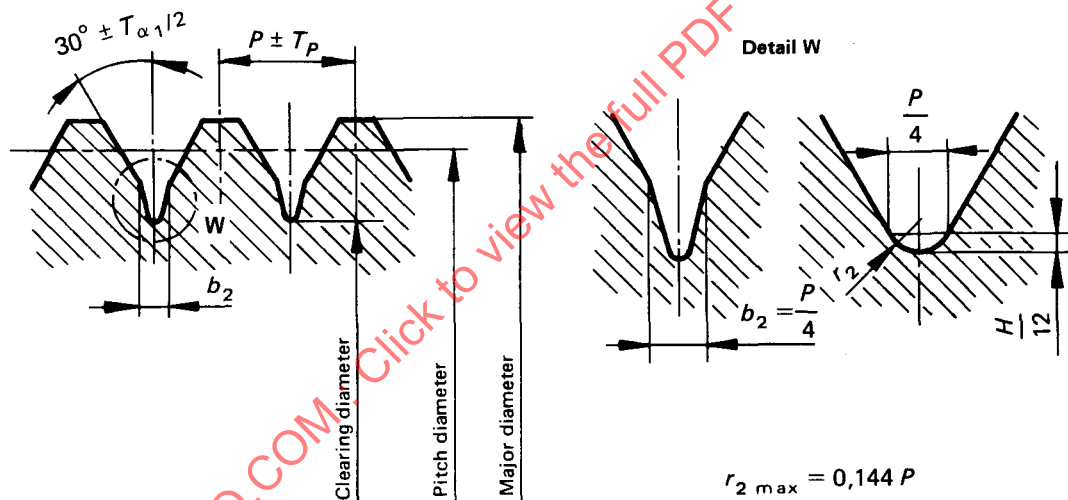

FIGURE 5 — Profile with complete flanks
10.1 Profiles with complete flanks (See figures 5 and 6)
The following gauges should have profiles in accordance with figure 5 :
The profile with complete flanks according to figure 5 can be made with a radius of maximum r_2 (see table 1) which contacts tangentially the straight part of the flank, or with a clearance groove of maximum b_2 (see table 1). The form of the clearance groove is left to the discretion of the manufacturer.
TABLE 1 – Values for profiles with complete flanks (See figures 5 and 6)